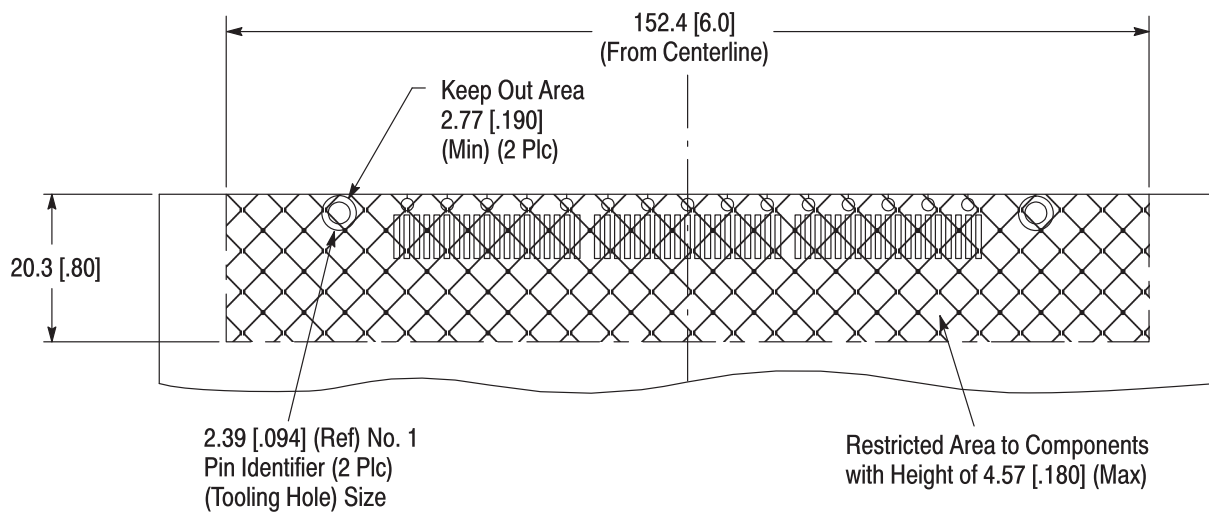

Figure 7
*The areas of the pc board that come in contact with the inserter must be free of any applied components during tool operation. This “keep out” area and “restricted” area must be determined before mounting the connector. See Figure 7.*